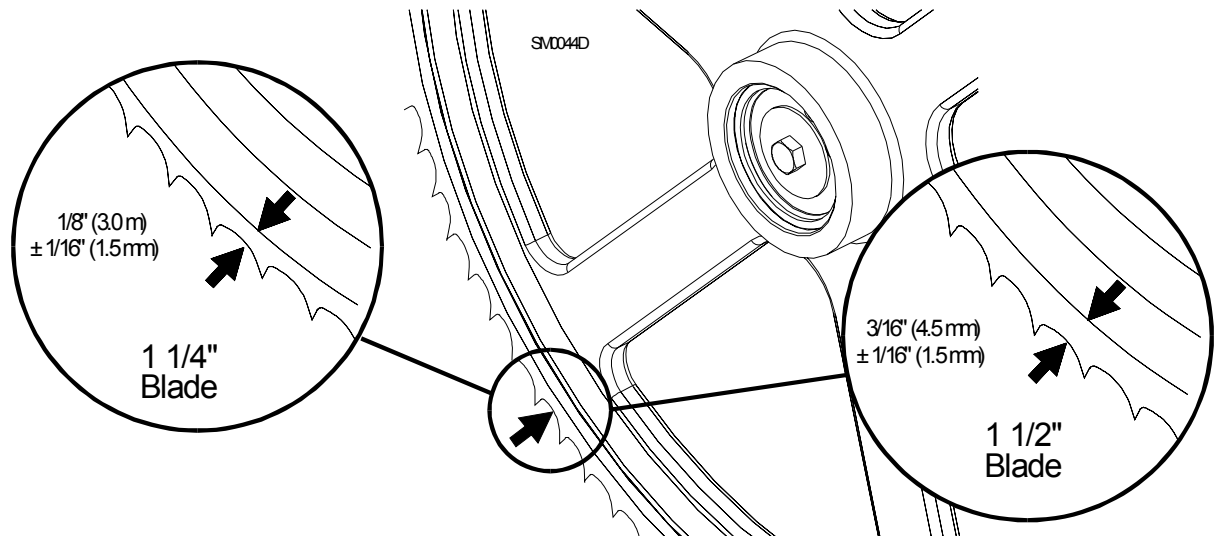

**FIG. 5-18**
**See Figure 5-18.** Use the vertical adjustment screws to adjust the idle-side blade wheel. To tilt the wheel up, loosen the bottom adjustment screw one quarter turn. Loosen the jam nut on the top adjustment screw and tighten the screw. Tighten the top and bottom jam nuts.